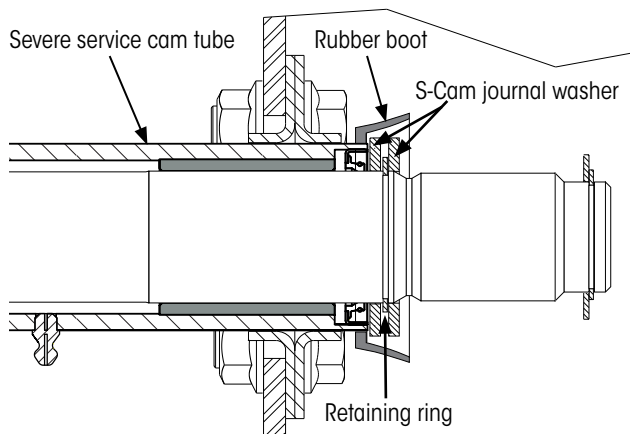

Figure 26: Severe service cam tube assembly
11. (**Severe service cam tube only**) Snap rubber cam tube boot (Figure 26) over and behind S-cam journal washer installed in Step 8.
12. **Slide** the second S-cam journal washer onto the S-cam and **seat** it against the retaining ring (Figure 26).